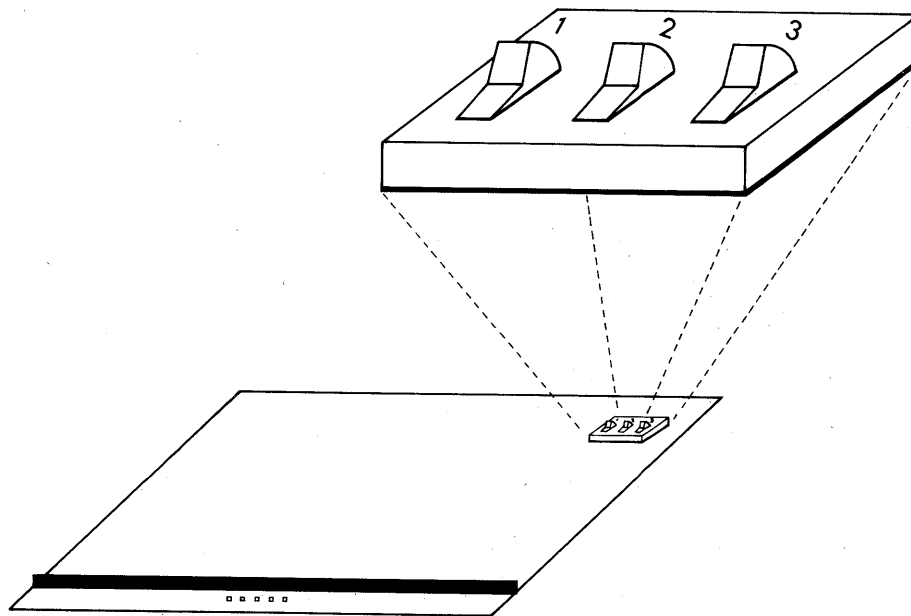

Figure 2-4. S58 Memory Controller Switch Positions
4. Set the S58 Memory Controller configuration switch (located near the right backplane edge of the PCA) so that all three switches are in the down position. See Figure 2-4 for switch positions.